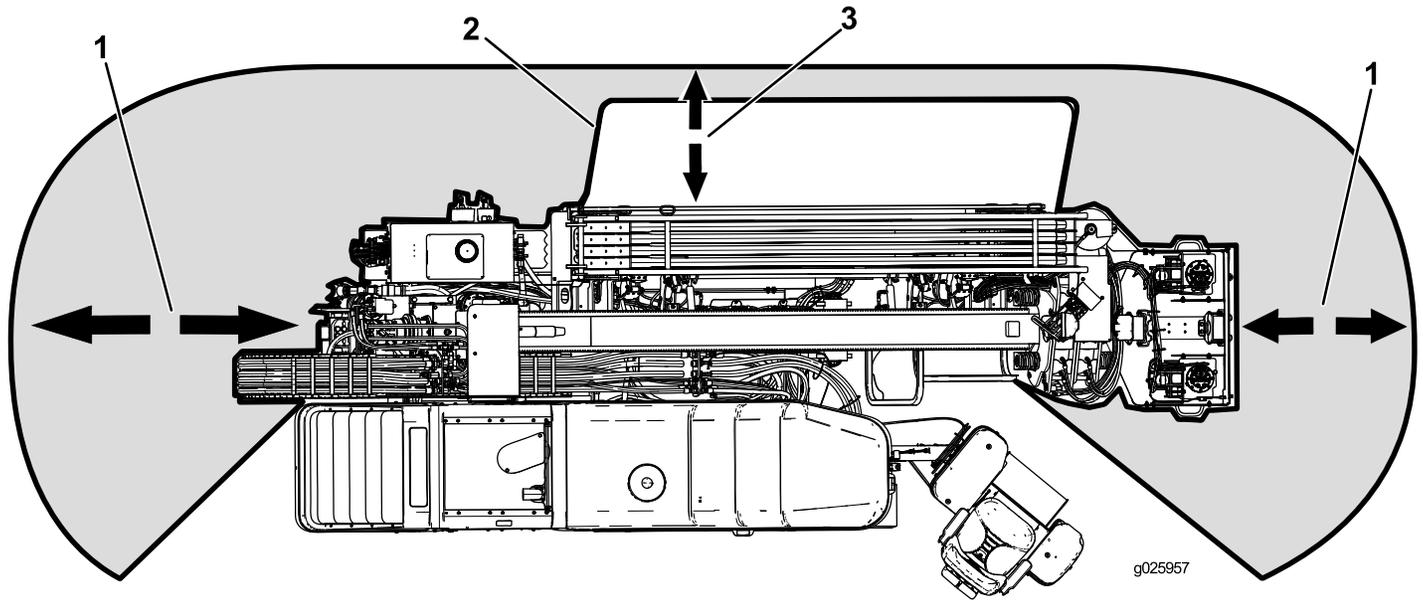

Figure 4
- Always lower the pedestrian safety bar before drilling (Figure 4).